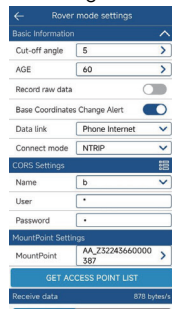

Figure 3.4-1
Click [Device] → [Rover], as shown in Figure 3.4-1. GNSS positioning equipment can calculate positioning coordinates by receiving satellite signals. In the absence of other interferences, the positioning equipment can only obtain the coordinate position of a single point solution due to the interferences of the atmosphere on the signal, and the accuracy is low. In order to ensure that GNSS devices can obtain high-precision positions, in addition to the GNSS device itself receiving satellite signals to calculate the position, it is also necessary to receive the signal of another nearby fixed-position GNSS device, and use the signal of the other device as the reference signal. Since the influence of the atmosphere on the signal is basically the same within a certain area, when the coordinate position of the reference signal is known, the two sets of GNSS can calculate the high-precision position. The GNSS device with a fixed position is called the base, and the GNSS device with a
In addition to differential data transmission configuration, you can also set the GNSS cutoff angle, differential delay, and whether to enable PPK and other basic information, as shown in Figure 3.4-1. Adjust the altitude angle to not receive the satellite signal when it is lower than a certain value. In the case of poor satellite signals at low angles, it is beneficial to precision calculation. The PPK parameter records the original GNSS observation data to the GNSS receiver and uses the post-processing algorithm to calculate high-precision coordinates.
1. Phone Internet: As shown in Figure 3.4-1, it refers to obtaining differential data from the specified server address through the network of the device where the software is located according to a certain protocol, and then sending it to the device through the communication connection between the software and the GNSS device for high-precision solution. Click on the right side of CORS